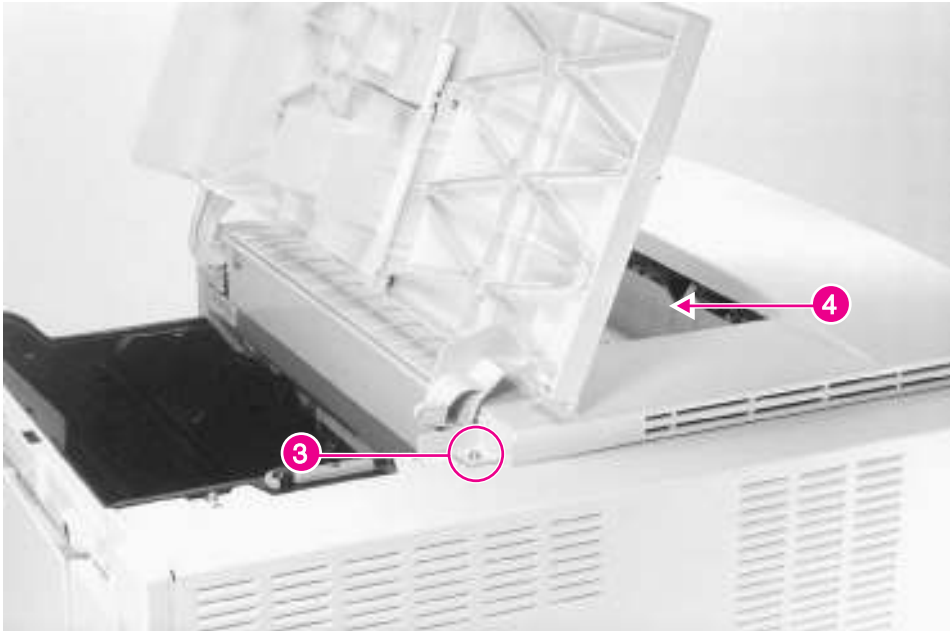

Figure 6-11 **Top Cover (2 of 2)**
- 3** Open the top cover door, and remove 1 screw (figure 6-11, callout 3).
Be careful not to damage the Standard Output Bin Full sensor flag (figure 6-11, callout 4) when removing the top cover.
Be careful not to damage the Standard Output Bin Full sensor flag (figure 6-11, callout 4) when replacing the top cover.
- 2** Slide the Standard Output Bin under the Standard Output Bin Full sensor flag, and make sure that the cam (figure 6-11, callout 4) at the rear of the top cover door is properly positioned while lowering the top cover into place.